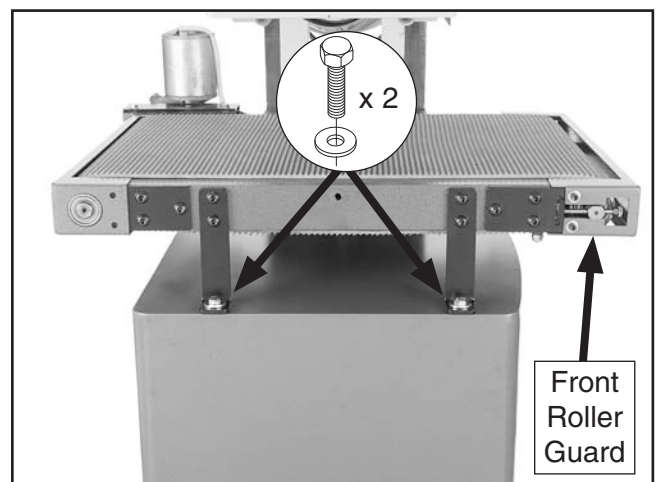

Figure 10. Sanding assembly mounting brackets and front roller guard.
6. Secure the sanding assembly to the cabinet stand with the (4) M8-1.25 x 25 hex bolts and 8mm flat washers (see **Figures 10–11**).
7. Remove the (4) 10-24 x 3/8" cap screws and flat washers from the front of the conveyor, slide the conveyor front roller guard onto the conveyor, and secure it with the cap screws and flat washers (see **Figure 10'**).